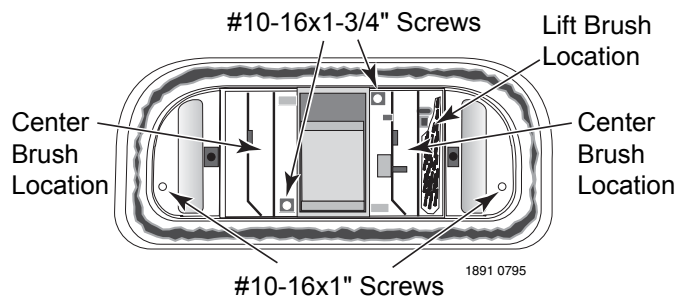

Figure 33 Bottom View of Cleaner
8. Install the lower body assembly in the shroud. Fasten the cleaning head in place with 4 screws (2 long, 2 short – see Figure 33).